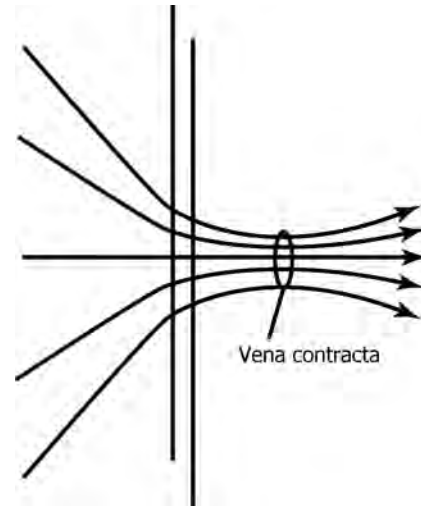

FIGURE 4.3 Vena contracta.
- Vena contracta is the point in a fluid stream where the diameter of the stream is the least (Figure 4.3).